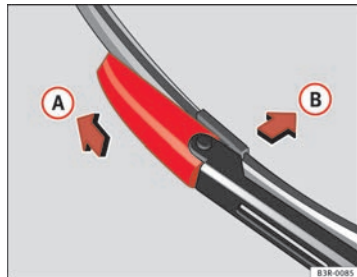

Fig. 170 Removing the wiper blade
- Slide the retainer catch on the wiper blade in the direction indicated ⇒ fig. 170 (A). Hold onto the wiper blade at the same time.
- Pull the wiper blade (B) out of its mounting on the wiper arm.